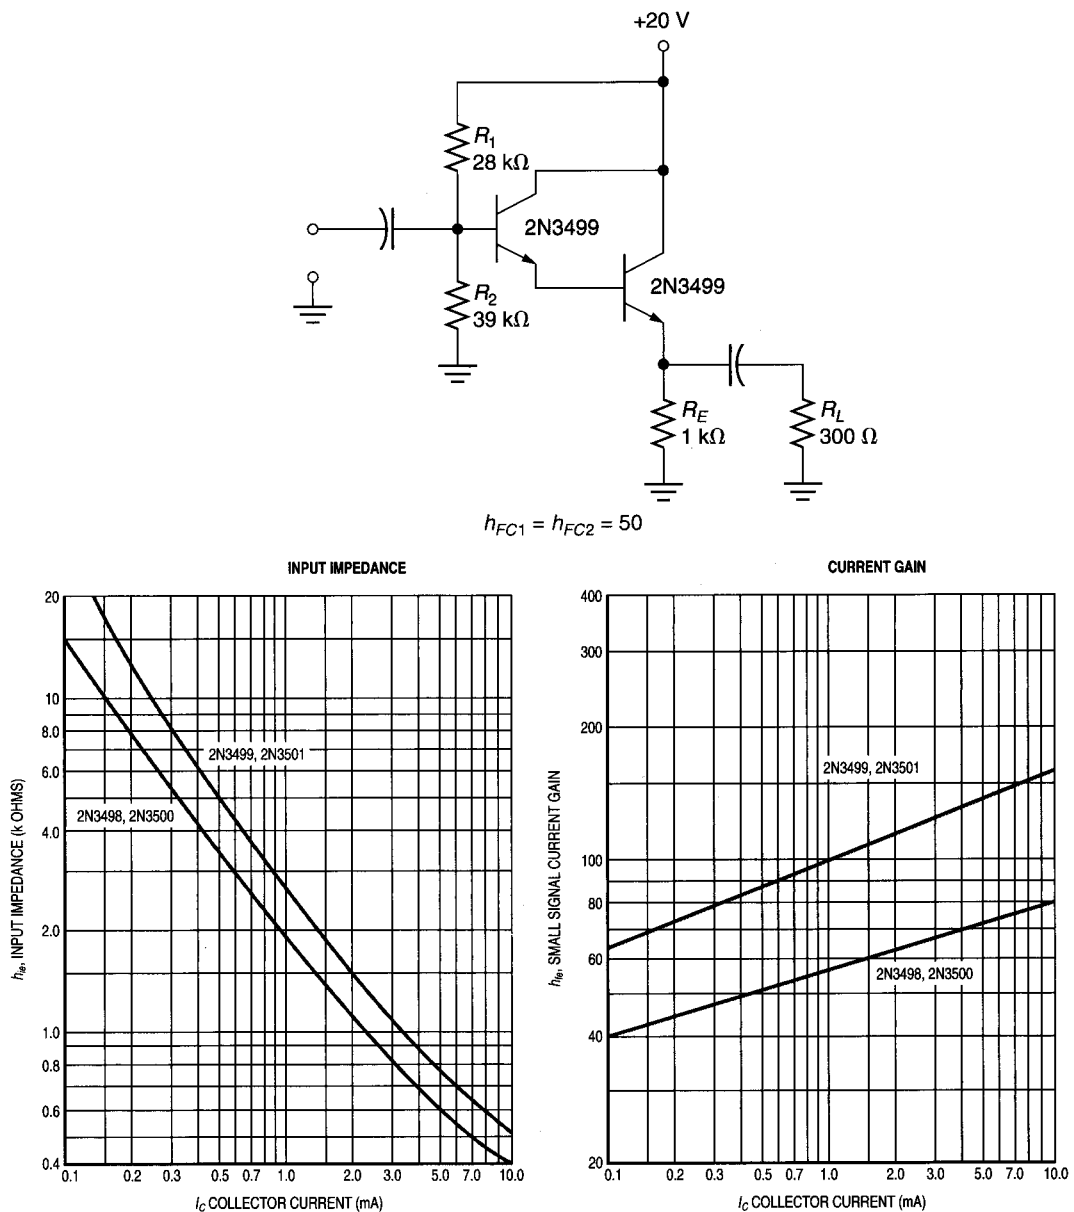

FIGURE 10.35 (Copyright of Semiconductor Component Industries, LLC. Used by permission.)
36. Determine the values of  $A_i$ ,  $Z_{in}$ , and  $Z_{out}$  for the amplifier in Figure 10.35 using the “quick” analysis equations. The  $h_{ie}$  and  $h_{fe}$  curves for the two transistors are shown in the figure.